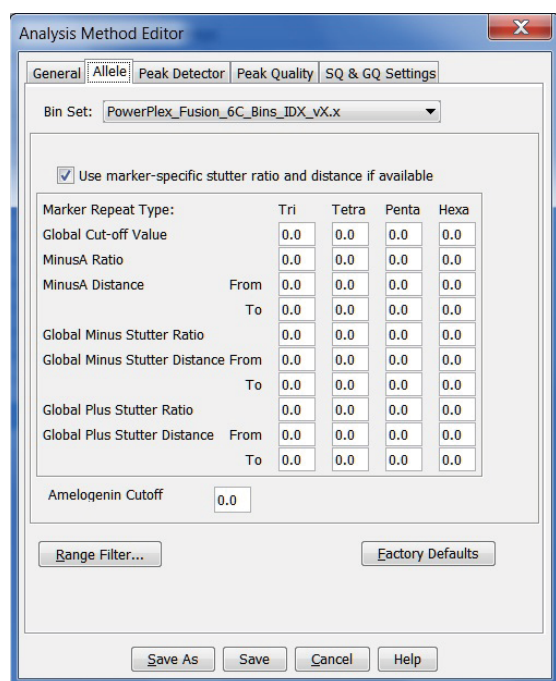

Figure 18. The GeneMapper® ID-X 'Allele' tab.
6. Select the 'Allele' tab (Figure 18).